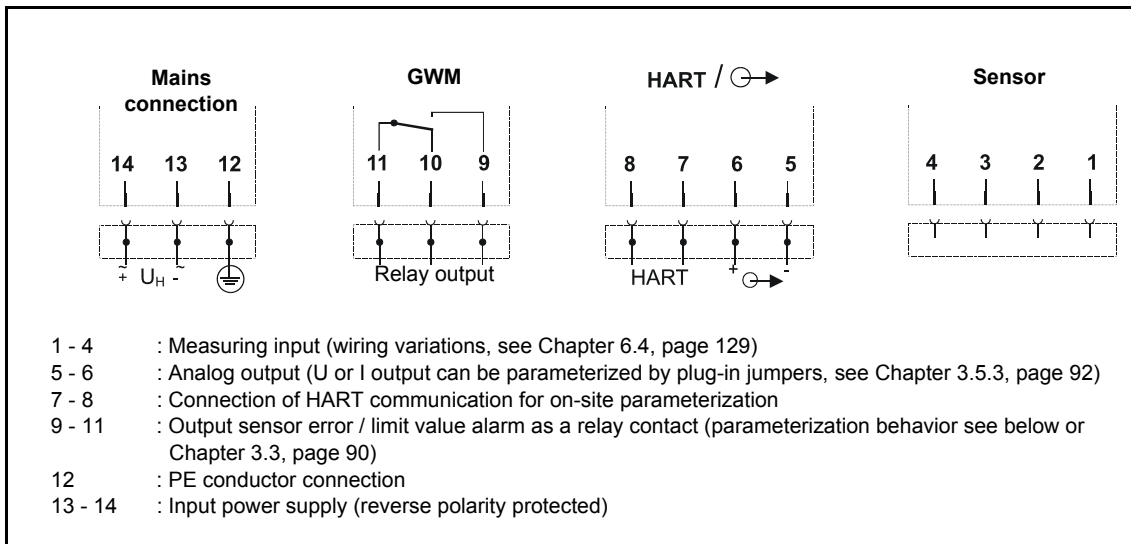

Figure 19 Wiring diagram input, outputs, power supply
- The pin assignment for input, outputs and power supply is shown in figure 19, page 127. The different versions for the input wiring of the sensor are shown in Chapter 6.4, page 129.